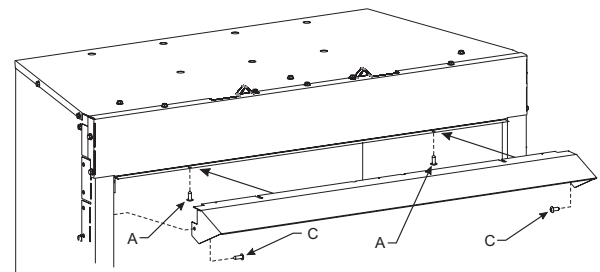

Figure 11
1. Loosen the two screws (A) holding firebox top to face panel, then slide the hood flange between the firebox top and face panel and re-tighten the screws. **See Figure 11.**
2. Install one screw at each end of the hood as shown (C). **See Figure 11.**